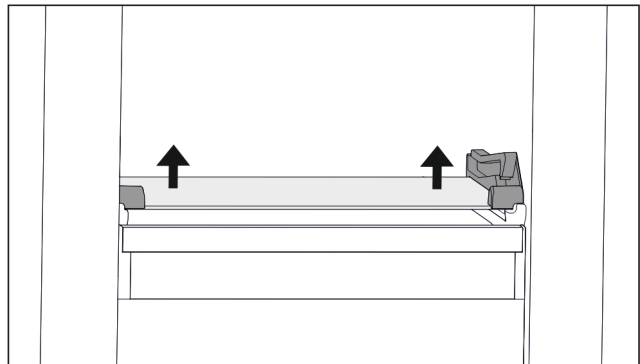

Fig. 103 Tilting drawer glass shelf
- ▶ Push glass shelf upwards from below on both sides. (see Fig. 103)